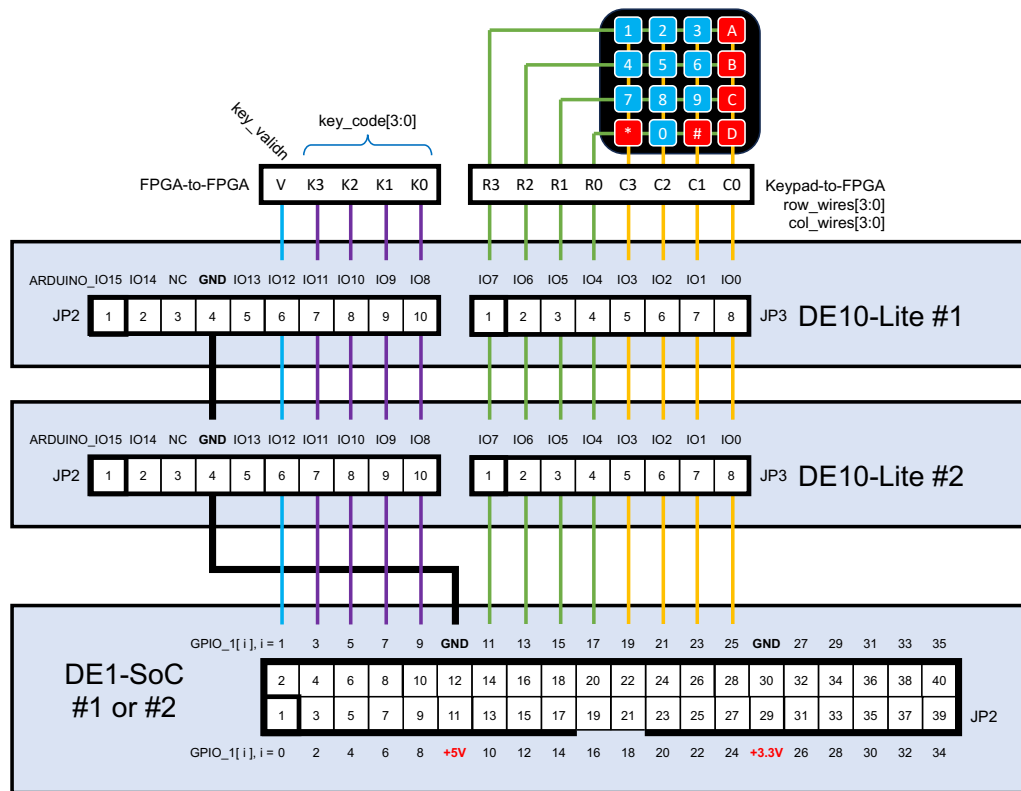

Figure 5. Connector pinouts.
Begin by testing your keypad. Connect it to your FPGA board according to Figure 5 and use the golden reference solution `keyboard.sof` on Canvas. If there is a problem, get a replacement.
- These female connectors accept a male (M) wire end.
- In SystemVerilog, these signals are named `ARDUINO_IO[15:0]`. See Figure 5.
- These are called 'header connectors' with male pins, so they accept a female (F) wire end.
- In SystemVerilog, these signals are named `GPIO_1[35:0]`. See Figure 5.